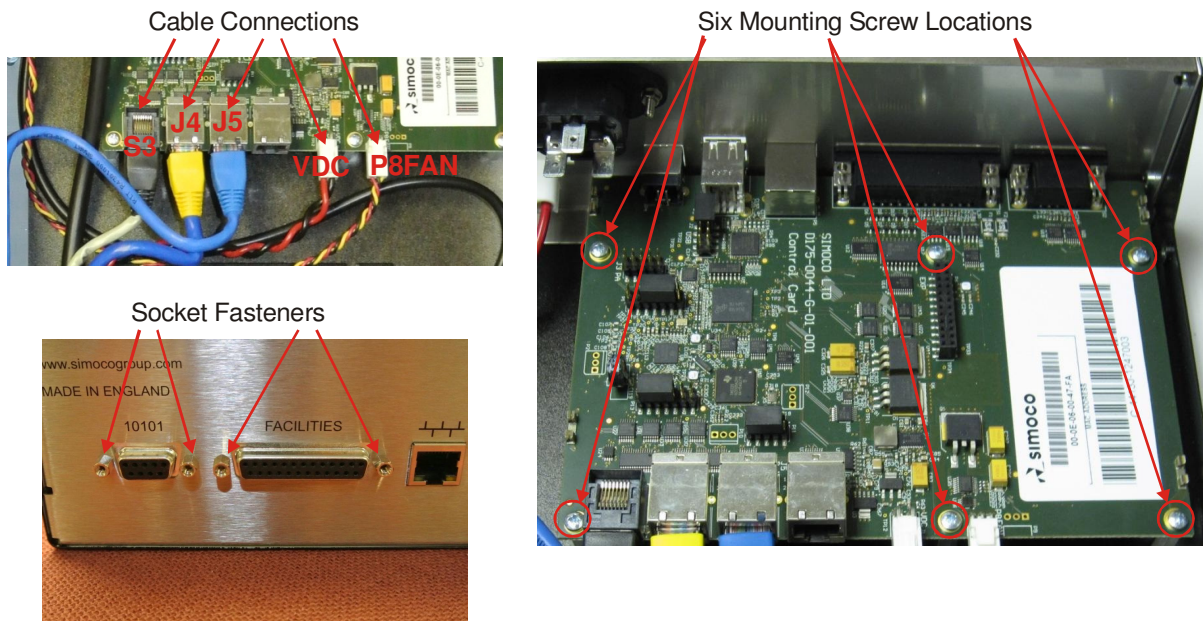

Figure 13. Removing the Control Board.
2. On the Control Board, referring to **Figure 13** overleaf, carry out the following: